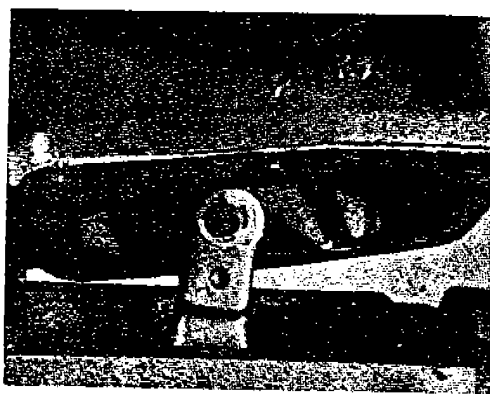

Figure 1 Cam actuator arm and valve sleeve
1. Remove two tube assemblies (8) (or one if motor control). Remove six bolts (4 short, 2 long) items (28) and (38), and six lock washers (63).
2. Lift control assembly from pump housing, breaking the seal with gasket (65). Care should be taken to avoid bending the feedback lever (22) by swinging it to one side, as illustrated in Fig. 1, before proceeding to step 3. Remove o-ring (70).